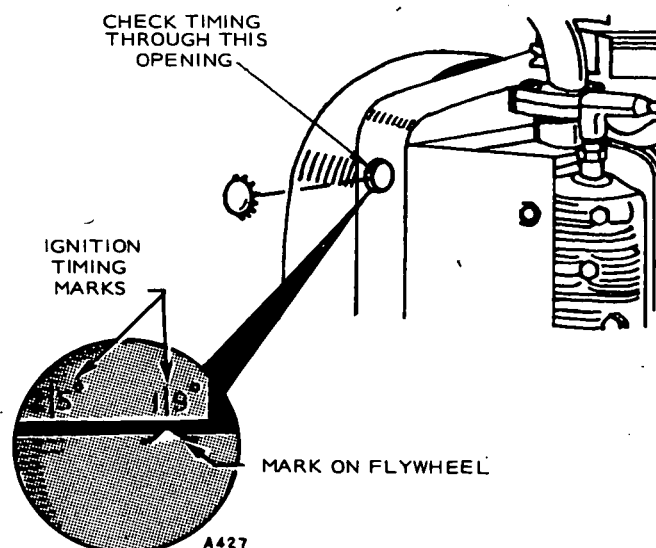

FIGURE 38. IGNITION TIMING MARKS
Both spark plugs on the CCK fire simultaneously, thus the need for a distributor is eliminated. Spark advance is set at 19° BTC (before top center) for gasoline generator sets, 24° BTC for gaseous-fueled sets. This timing should be maintained for best engine performance (Figure 38).
2. If Vacu-Flo cooled, remove plug from the timing hole (Figure 38).